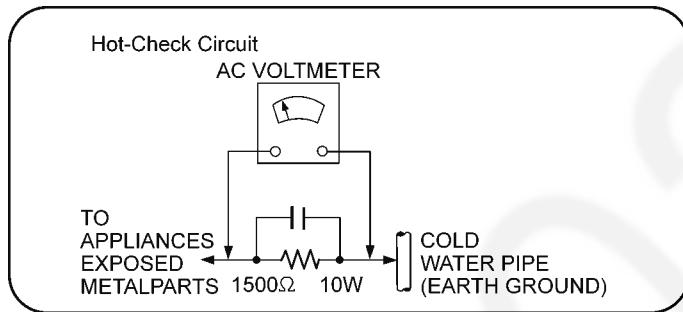

Figure 1-1
2. Connect a  $1.5\text{k}\Omega$ , 10 watts resistor, in parallel with a  $0.15\mu\text{F}$  capacitors, between each exposed metallic part on the set and a good earth ground such as a water pipe, as shown in Figure 1-1.